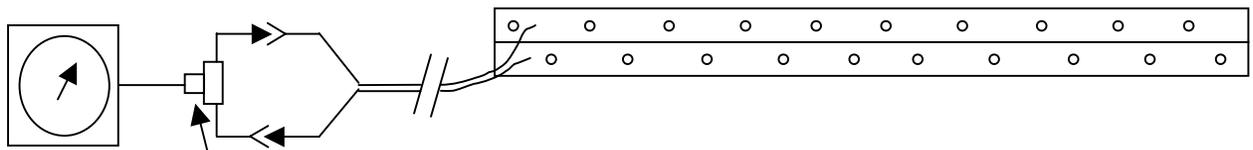

FIGURE 3 – Manifold Test
- 12.1.1** Remove manifold from the mattress and block ports (20) with Red Plug PN 30258 as shown in FIGURE 3.
- 12.1.3** Inflate manifold to 40 ±10 mmHg. Kink hoses, and disconnect Inflator/Deflator. Connect Male and Female couplings to the gauge to seal the manifold. (See FIGURE 3)